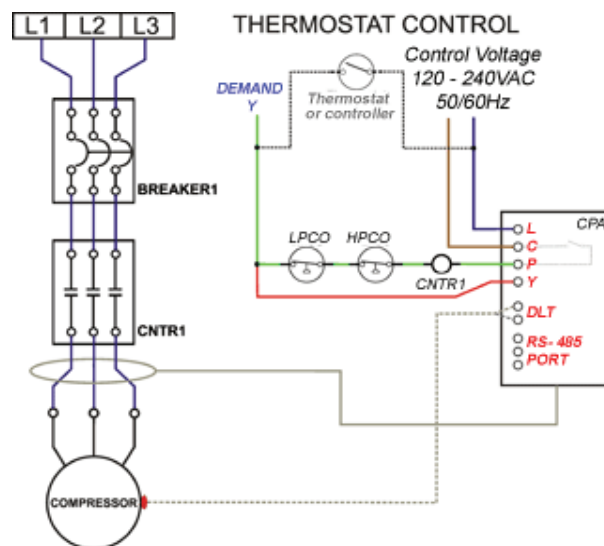

Figure 6
The module requires 110-220VAC power between L and C terminals. The module should remain powered through all states of operation. Refer to wiring schematic in **Figures 6, 7 and 8**.
220VAC with respect to Common (C). When the coil is not energized, the demand signal input should be less than 0.5VAC. See **Figures 6, 7 and 8** for proper wiring diagrams. Choose the appropriate diagram depending on how the demand signal will be fed to the module.
Depending on the system configuration, some ALERT Flash codes may not be active. The presence of safety switches affects which system alerts are detected by the module. Refer to **Figures 6 or 7** for wiring with a safety switch.